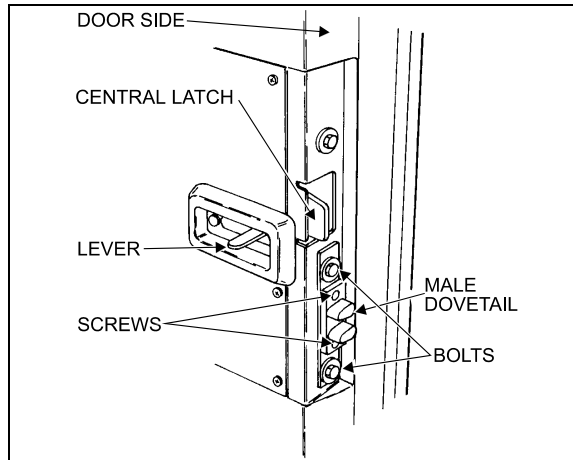

FIGURE 19: DOOR LATCH (COACH)
- To adjust the male dovetail on L.H. side of the door, remove the two screws and loosen the two bolts. Slide the male dovetail toward the interior and loosely tighten the two bolts. Close the door slowly but firmly, then slowly open it and tighten the two bolts. Attach dovetail to the door with screws. See figure 19.